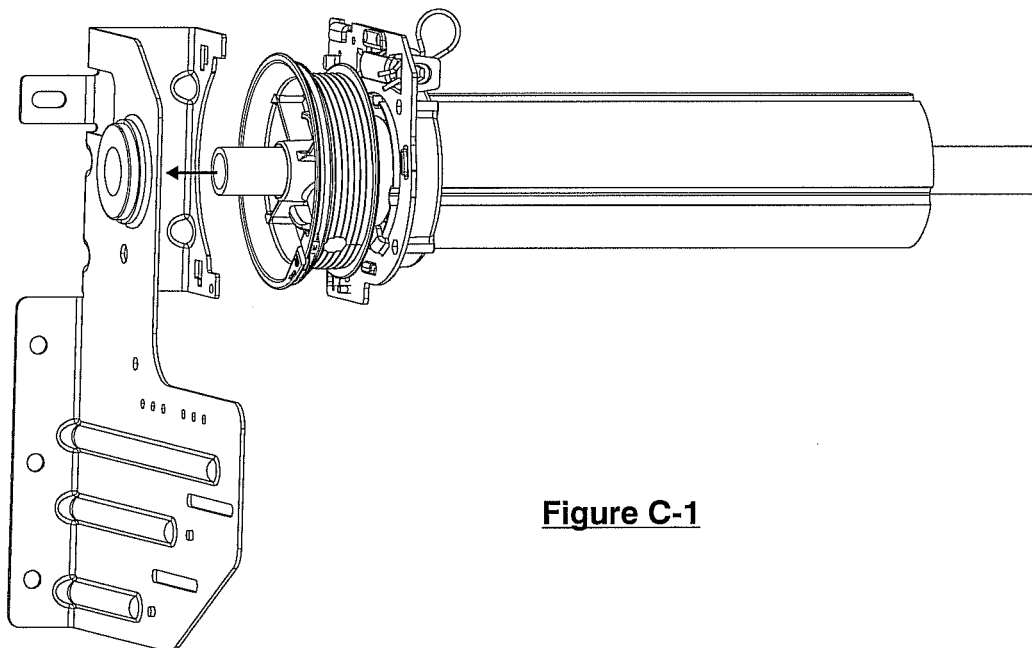

Figure C-1
- A. Slide counterbalance on the shaft as shown in Figure C-1. Standard single spring systems will use left-hand Armortite assemblies. For dual spring systems, verify the left-hand Armortite assembly is matched to the left side of the door and the right hand Armortite assembly is matched to the right side of the door. Drums and winders are labeled "L" and "R".
- C. Install counterbalance shaft in to the headplate bearings along with the Armortite assembly as shown in Figure C-1.